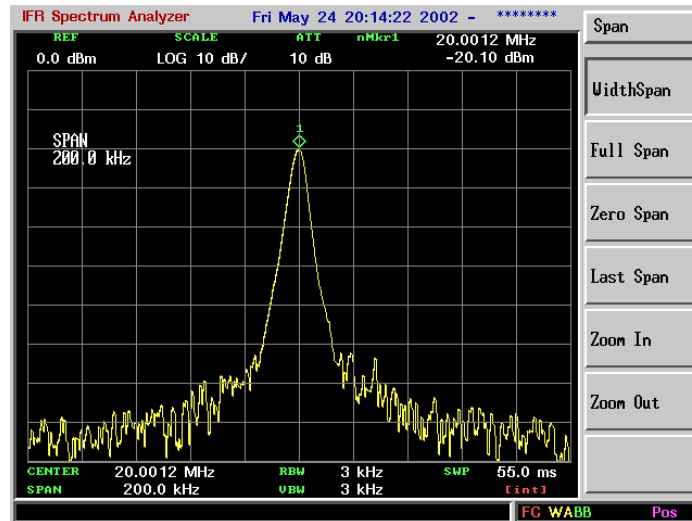

Figure 2-9. After Zoom-In on the Signal
6. Press **SPAN**, 200 kHz. The span decreases in steps as automatic zoom is completed. See Figure 2-9. You can also use the scroll knob or step keys to decrease the span or use the *Zoom* function under **SPAN**.